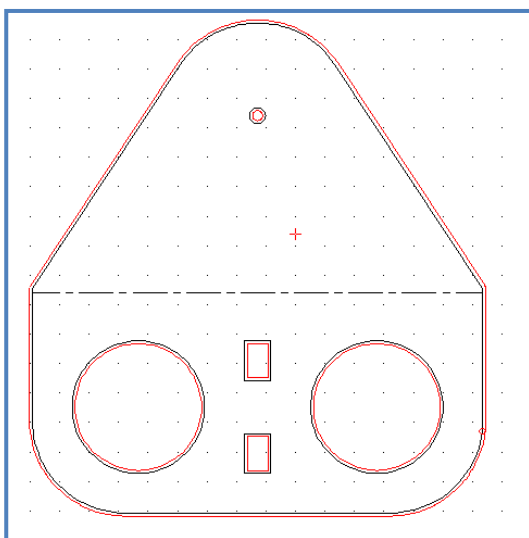

Figure 17
- On the drawing click on the correct side of each line that is to be machined (Figure 17).